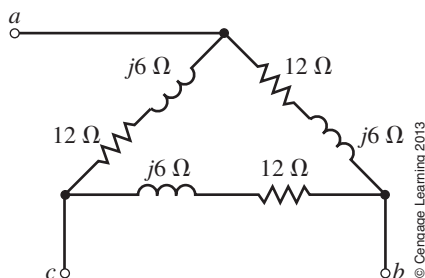

FIGURE 24-53
39. For Figure 24-53, if $V_{ab} = 600$ V, determine the total power, total reactive power, total apparent power, and power factor.